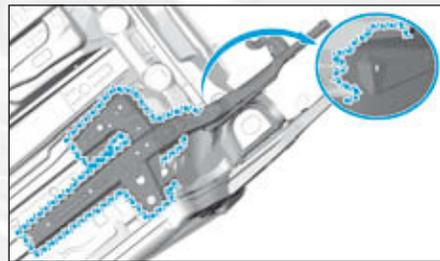

FIG.21
- un mastic d'étanchéité indice "A4" (Fig.21),